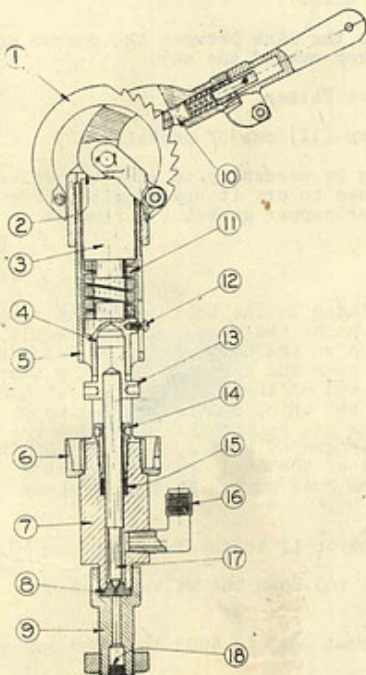

FIG. O-2
Referring to Fig. O-2 the regulating valve is built around valve body (7). The hardened steel valve seat (8) is held between the body and adapter stud (9) which screws on the bottom of the body, and through passage (18) allows the by-passed fuel to escape. Fuel inlet elbow (16) is threaded into the side of the body, supplying fuel to the annular space around the reduced section of the valve stem (17). The top of the body is bored to receive stem packing (15) and packing gland (14). Screwed to the top of the body is relief valve spring cage (5). This cage is screwed down upon the drain cup holding the latter in place against a shoulder on the body.